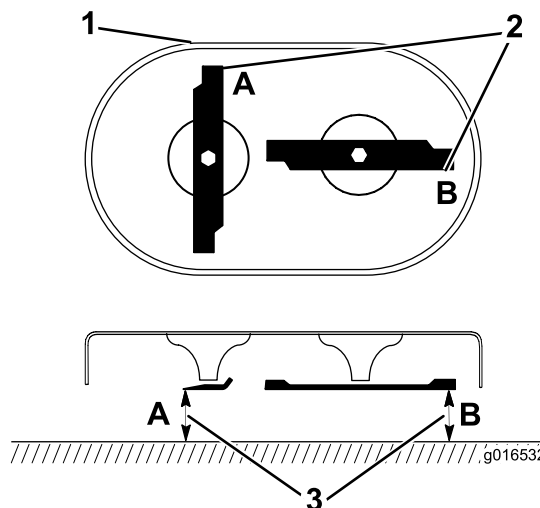

Figure 42
1. Rotate the blades to the position shown in Figure 42.
2. Measure from a level surface to the cutting edges at locations **A** and **B** (Figure 42), and record both dimensions.
3. Rotate the blades so that their opposite ends are at locations **A** and **B** (Figure 42).